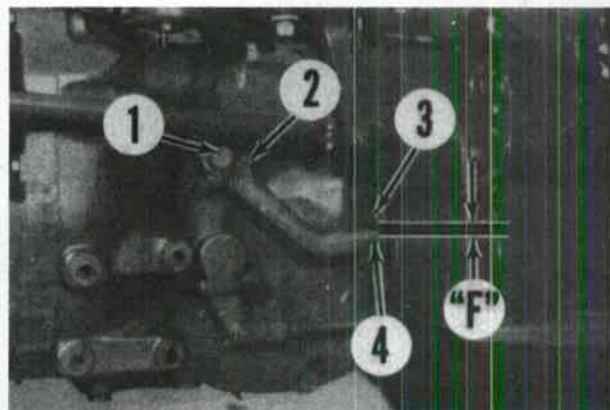

Fig. 113—Refer to text for clutch pedal free travel adjustment on MF230, MF240 and MF250 models.
110. Clutch pedal free travel (F—Fig. 113) is measured between top of clutch pedal shaft (4) and bottom of footrest spacer (3). Free travel should be 11 mm (7/16 inch). If incorrect, loosen clamp bolt (2), then insert a punch into hole of